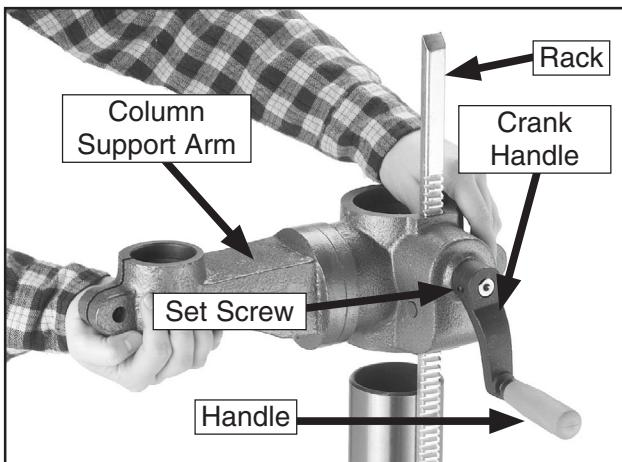
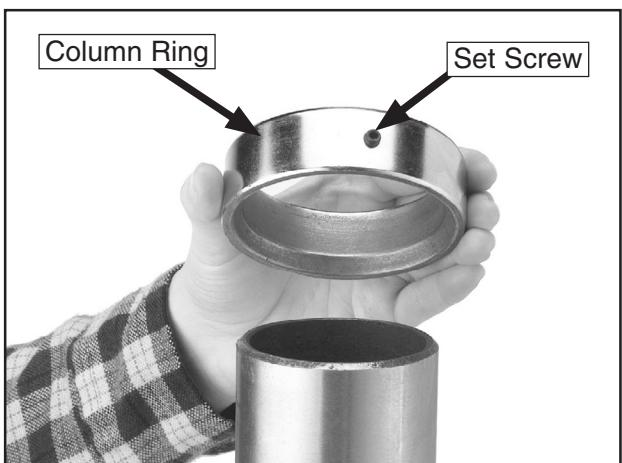

Figure 9. Rack orientation (G7946 shown).
Figure 10. Inside bevel in the correct position.
2. Slide the crank handle over the pinion gear shaft and align the set screw in the crank handle with the flat portion of the shaft. Secure with a 3mm hex wrench. See **Figure 9**.
4. Remove the column ring (**Figure 10**) by loosening the set screw and remove the rack (**Figure 9**). The end of the rack that has teeth extending closest to the edge must be positioned down.
- Insert the rack into the table bracket pocket so the gear teeth mesh and the rack is positioned as shown in **Figure 9**.
- Slide the column ring over the column with the beveled edge facing down (**Figure 10**), fit the beveled edge of the column ring over the rack, and tighten the set screw. **Note:** Do not over-tighten the set screw or you may split the column ring. Also make sure the rack is seated firmly in the lower ring.